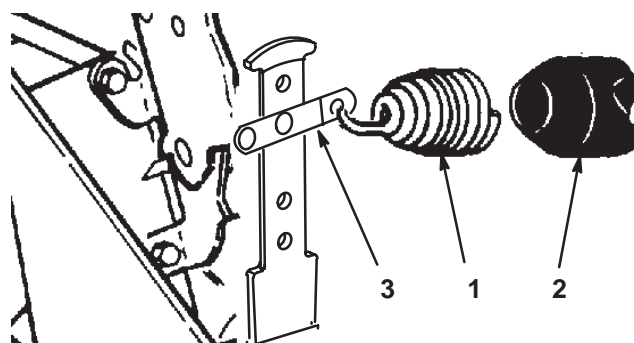

Figure 17
6. On the rear counterbalance arms, install the vinyl cover over the spring before hooking the other end of the spring into the spring shackle in the second hole from the top (Fig. 17).